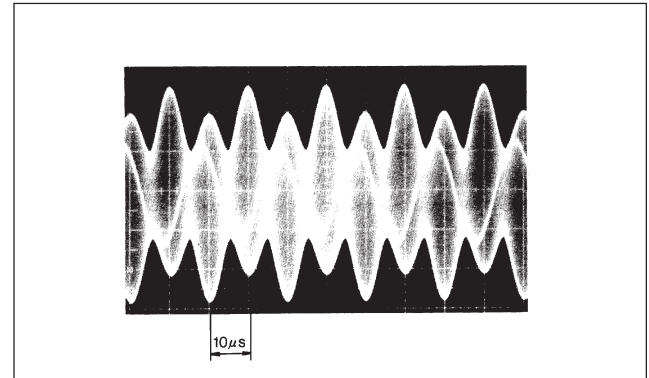
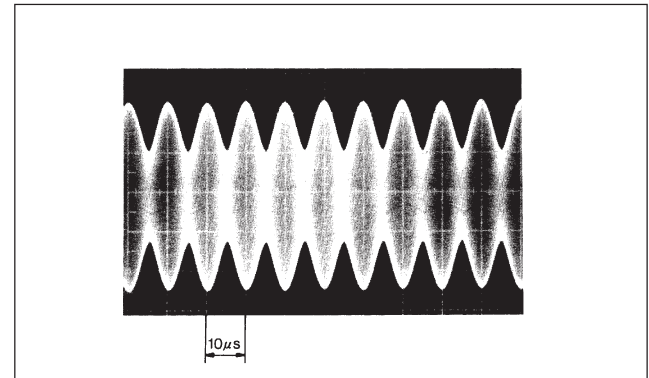

Fig. 6
Fig. 7
- ① Prepare the oscilloscope by setting the input coupled switching to AC with a horizontal sweep axis of $10 \mu\text{s}/\text{div}$ and a vertical axis of $0.5 \text{ V}/\text{div}$, and connecting CH1 to the PM terminal. At this time, the trigger source should be taken from INT CH1.
- ② A sine wave appears in CH1. The phase of this sine wave moves in accordance with the scale movement, allowing the envelope ripple to be observed. First rotate the RV2 volume to set the sine wave amplitude to approximately $2 \text{ V}_{\text{p-p}}$. (This is called the gain adjustment.)
- ③ When the RV1 volume is rotated completely to the right (clockwise) and the scale is moved, the waveform shown in Fig. 6 appears. At this point, adjust the RV4 volume so that neighboring peaks are of the same height as shown in Fig. 7 (This is called the DC balance adjustment.) If the minimum PM signal amplitude falls to $0.5 \text{ V}_{\text{p-p}}$ or less, the alarm function may operate.
- ④ When the RV1 volume is rotated completely to the left (counter-clockwise) and the scale is moved, the waveform shown in Fig. 6 appears as in step ③ above. At this point, adjust the RV5 volume so that neighboring peaks are of the same height as shown in Fig. 7.